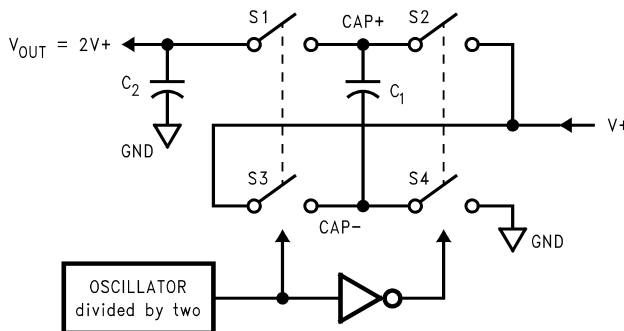

Figure 11. Voltage Doubling Principle
The LM2767 contains four large CMOS switches which are switched in a sequence to double the input supply voltage. Energy transfer and storage are provided by external capacitors. Figure 11 illustrates the voltage conversion scheme. When S_2 and S_4 are closed, C_1 charges to the supply voltage $V+$. During this time interval, switches S_1 and S_3 are open. In the next time interval, S_2 and S_4 are open; at the same time, S_1 and S_3 are closed, the sum of the input voltage $V+$ and the voltage across C_1 gives the $2V+$ output voltage when there is no load. The output voltage drop when a load is added is determined by the parasitic resistance ($R_{ds(on)}$ of the MOSFET switches and the ESR of the capacitors) and the charge transfer loss between capacitors. Details are discussed in Application and Implementation.
- R_{SW} is the sum of the ON resistance of the internal MOSFET switches shown in Figure 11. (1)